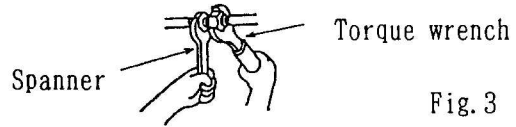

Fig. 3
④ Tightening the flare nut on the indoor unit side should be done with 2 spanners as shown in Fig. 3.